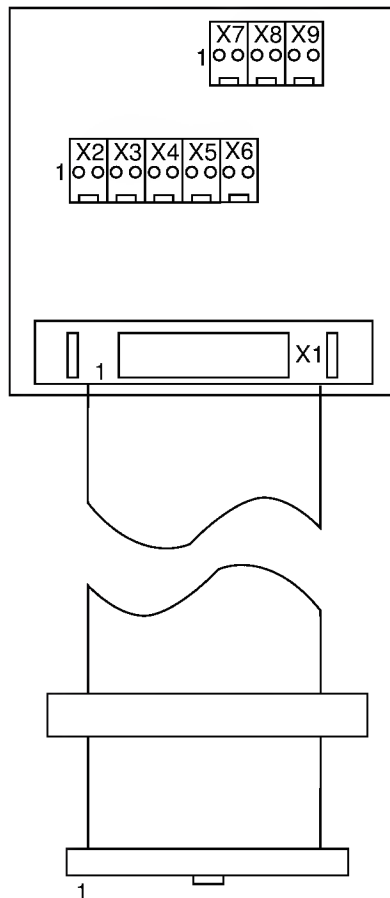

Fig. 11: Component layout of Mixer Valve Adapter PCB
- Connect a voltmeter (parallel to V10) to X4 of the Adapter Mixing Valve PCB (see Fig. 11:).